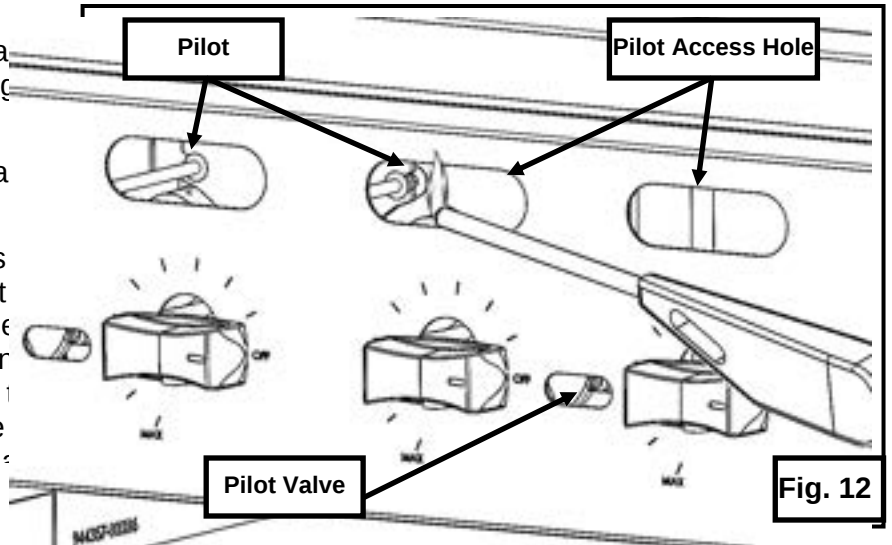

Fig. 12
3. Light each pilot using an outside ignition source. Pass the ignition source through the pilot access hole in the front panel and ignite the pilot (Fig. 12). The end of the ignition source will need to be at least 7" long so it can extend past the front panel.